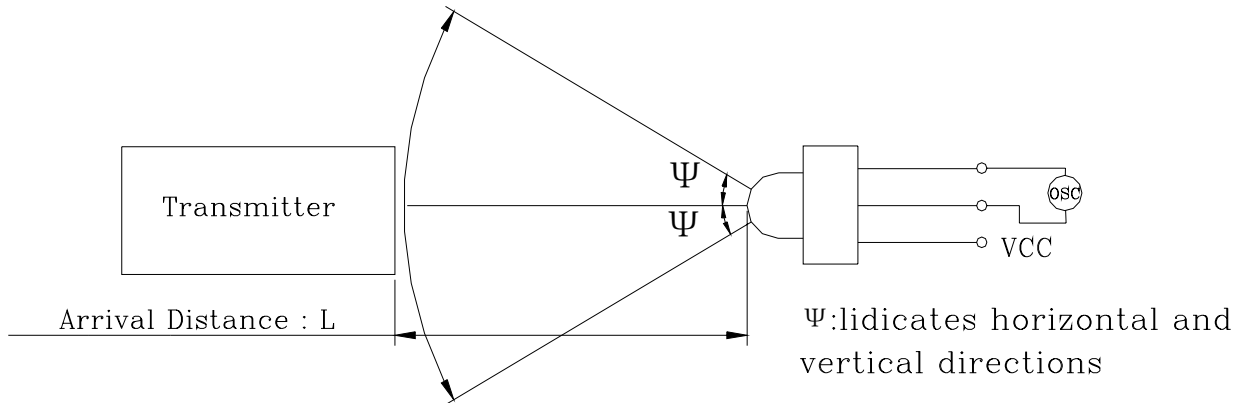

FIG.11 MEASUREMENT OF STANDARD TRANSMITTER PROOFREADING
- \* ALL CHARACTERISTICS OF THE RECEIVER IN THIS SPECIFICATION ARE SPECIFIED BY SUPPLYING BURST WAVE FORM WITH STANDARD TRANSMITTER (FIG.11)